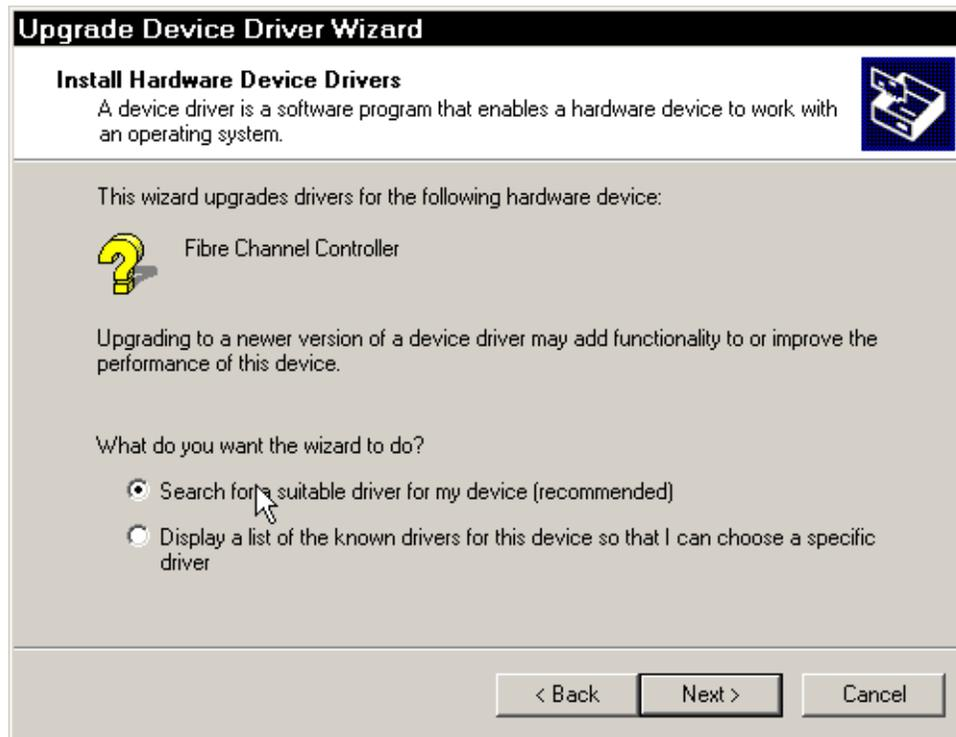

Figure 4 Driver source selection dialog
10. Select the option starting with **Search for a suitable driver...** (see Figure 4).